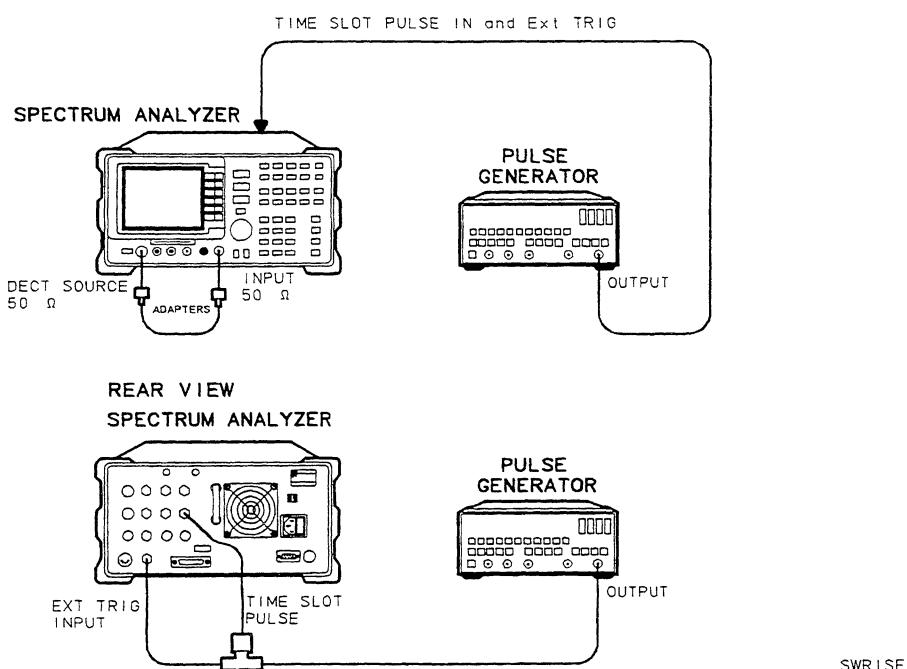

Figure 9-9. TDMA Switch Delay Test Setup
1. Connect the 23 cm BNC cable between the DECT SOURCE $50\ \Omega$ and INPUT $50\ \Omega$ connectors on the spectrum analyzer, using the N(m) to BNC(f) adapters. Refer to Figure 9-9.